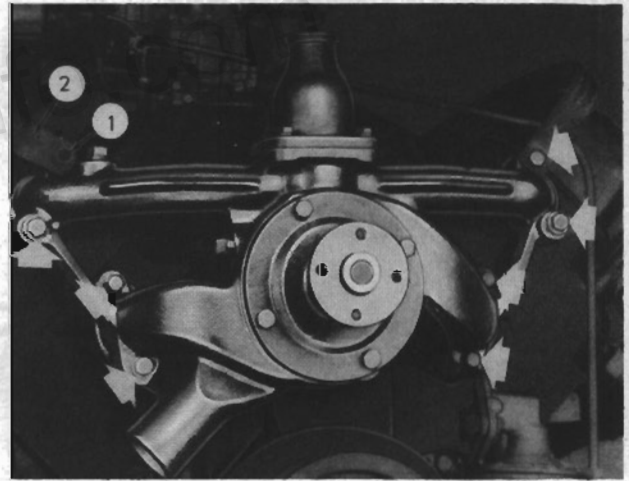

FIG. 12
Remove the generator adjusting arm (2, Fig. 11, or 12) from the cap screw or top stud (1). Remove the cap screws, indicated by arrows in Figs. 11 and 12, and the stud (1, Fig. 12) on the 56B and 56H models. Remove the manifold.